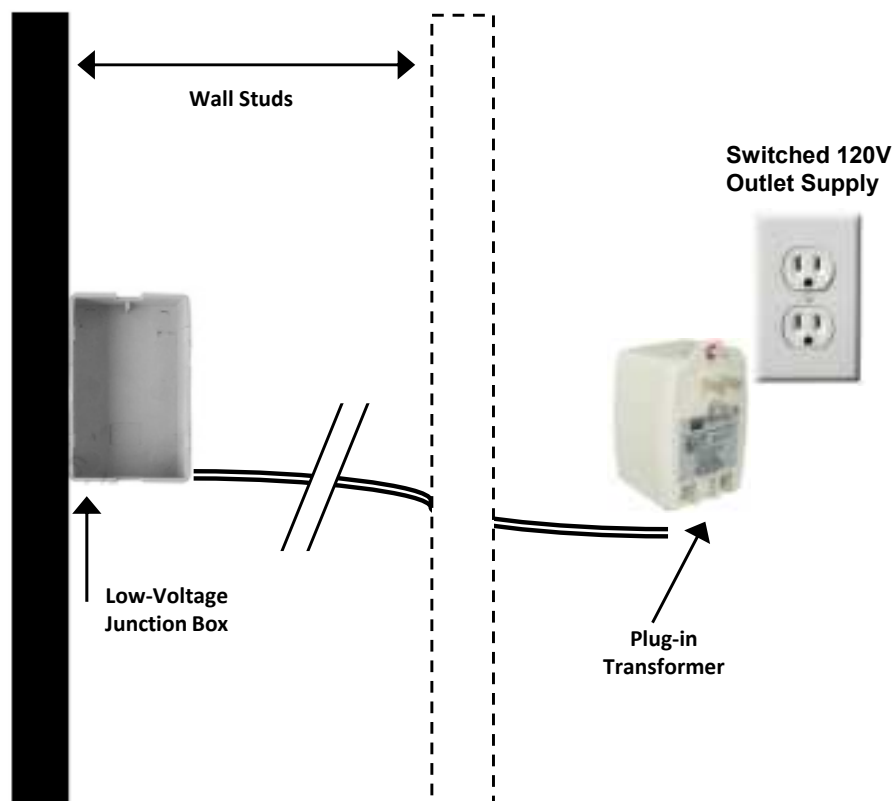

Figure 1. Locating the junction box and running low-voltage wires from the transformer (front view).
4. Install junction box per manufacturer's instructions (see Figure 1).
1. Run power supply wires from the provided low-voltage transformer to the opening at the mirror location. The power supply wires are run in the wall (see Figure 1).